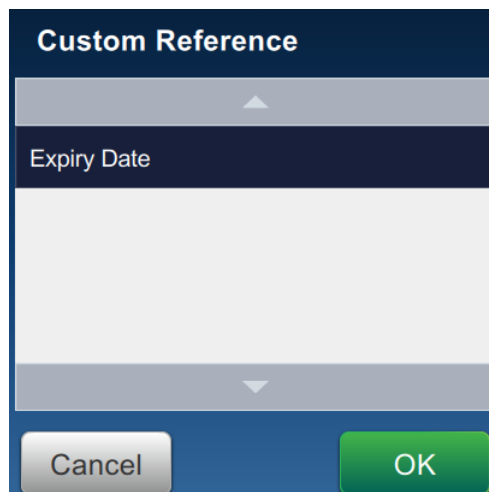

Figure 6-12: Custom Reference List
8. Select Expiry Date from the Custom Reference list as shown in Figure 6-12.
14. Select Expiry Date from the Custom Field Reference list as shown in Figure 6-12.